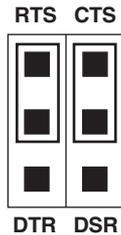

Figure C-2. The necessary “pass RTS/CTS” setting.
4. Set the flow-control jumpers in *both* the Local Hub *and* the Remote Unit to the “RTS/CTS across link” setting (jumpers vertically linking the upper pairs of posts), as shown in Figure C-2. This will allow the Extender system to detect the mouse properly.